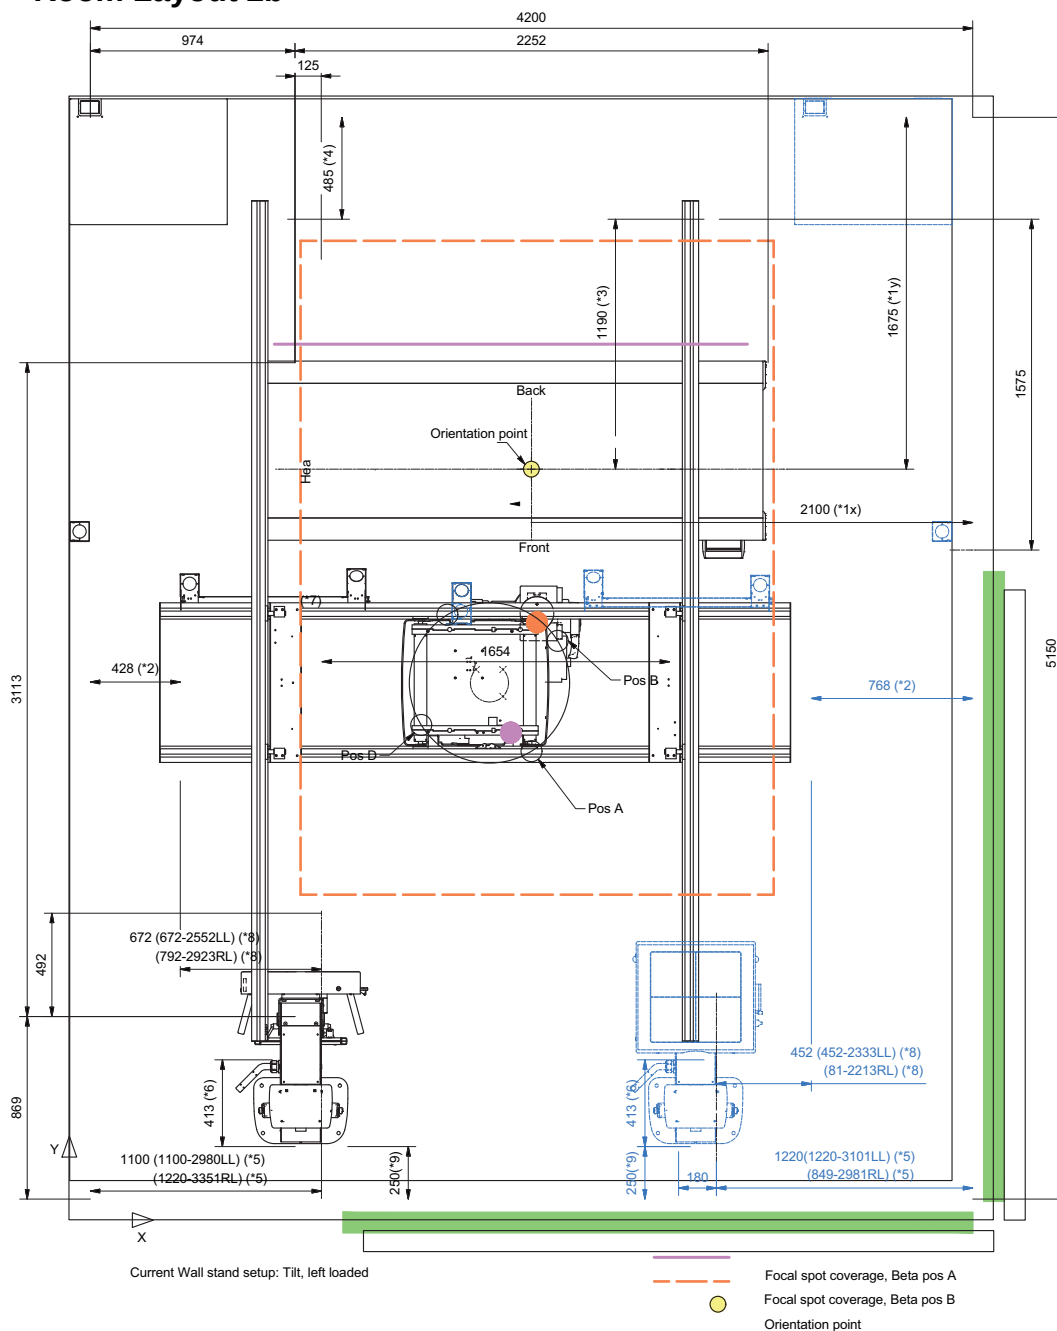

Figure 5-3
A 0180, Variant 4C installed in a room with similar size and with the components placed as described in *Figure 5-3*, usually requires 16m cable length, which also is the standard configuration, see also system connections in chapter 5.
- **(*2)** is chosen due to the room size in layout 1 (*Figure 5-3*) and centers the focal spot coverage area in X-direction related to the room and table. **(*2)** must not be less than 100 mm.
- **(*5)** is chosen to give the operator enough space to work freely with the ceiling suspended unit and the wall stand (see also **(*6)**). It's allowed to mount arm rest on both sides when those min and max dimensions are withheld. Both left hand load detector holder (LL) and right hand load detector holder (RL) are described with min and max dimensions.